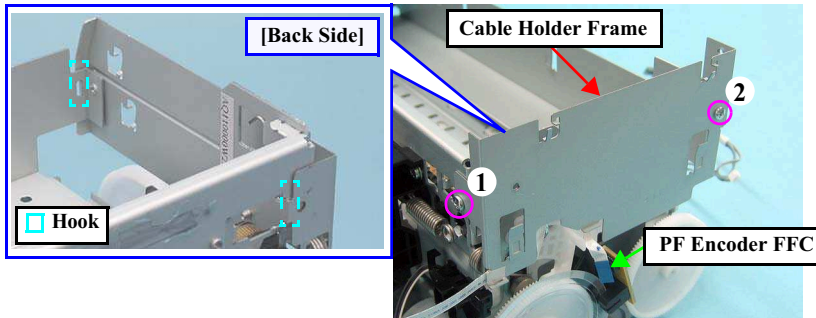

Figure 4-73. Removing the Cable Holder Frame
- When installing the Cable Holder Frame, match the two hooks of the Cable Holder Frame with the positioning holes of the Main Frame and Front Frame as shown in Fig.4-73 \(p.81\), and tighten the screws in the order given in the figure.